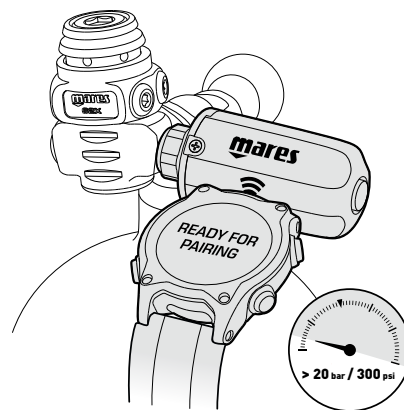

Fig. 10
- Place Sirius against the tank module as shown in Figure 10. Sirius must touch  on the tank module.